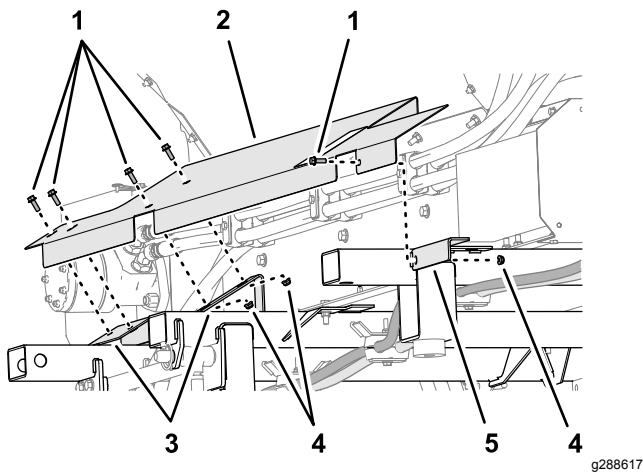

Figure 27
1. Align the slots in the side shield with the slots in the 2 shield supports of the center and rear cross members and the L-bracket of the front cross member (Figure 27).
2. Assemble the side shield to the shield support at the center cross member (Figure 27) with 2 flange-head capscrews (1/4 x 3/4 inch) and 2 flange locknuts (1/4 inch).
3. Assemble the side shield to the L-bracket at the front cross member (Figure 27) with a flange-head capscrew (1/4 x 3/4 inch) and a flange locknut (1/4 inch).
4. Assemble the side shield to the shield support at the rear cross member (Figure 27) with 2 flange-head capscrews (1/4 x 3/4 inch).